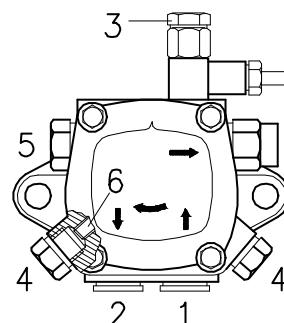

Fig. 18
- In order for self-priming to take place, one of the screws 3) (Fig. 18) of the pump must be loosened in order to bleed off the air contained in the suction line.
In order to adjust pump pressure, use the relevant screw 5)(Fig. 18 at page 17).